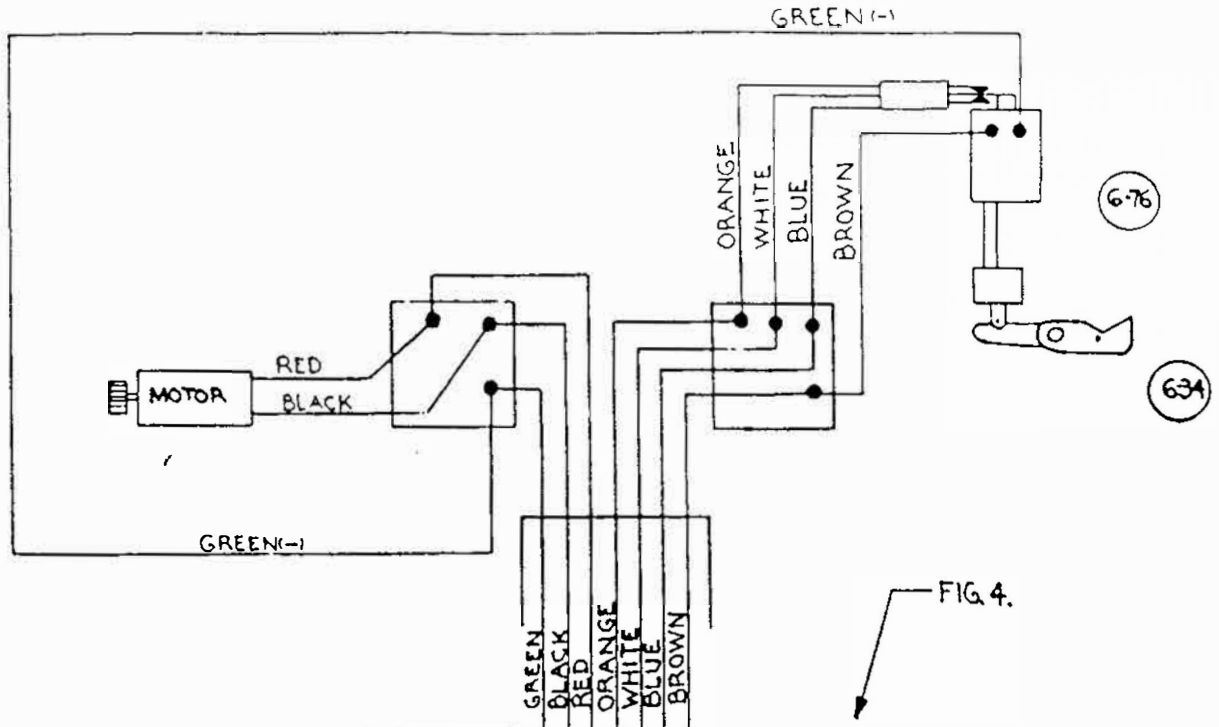

FIG. 4.
4. Fasten solenoid panel (Fig. 4) below deck within reach of electric cable from windlass. Keep panel free of rope hole and rope, (see wire diagram for electrical connections).
- A. Connect control cable, from unit to solenoid panel, (Fig. 4) following diagram with color coded wires.
Connect No. 6 wire to panel (Fig. 4) marked +POS. Connect other end of wire to +POS. side of battery using circuit breaker furnished loose.
Connect No. 8 wire to panel (Fig. 4) marked -NEG. Connect other end to ground -NEG. source, battery or other.
Connect 5 wires No. 18 from remote switch (Fig. 5) to solenoid panel (Fig. 4) following color code.